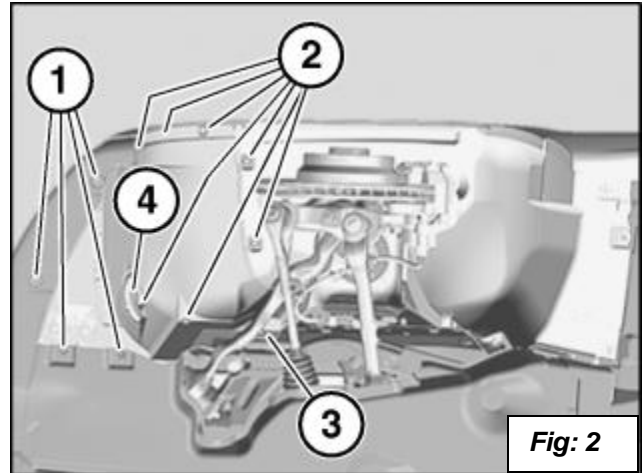

Fig: 2
4. Remove the front inner fender on the right side by removing the screws at location (1) and (2). Unscrew the nut at location (3). Remove the Air Guide (4). Disconnect the connector from the tire pressure box. See figure 2.